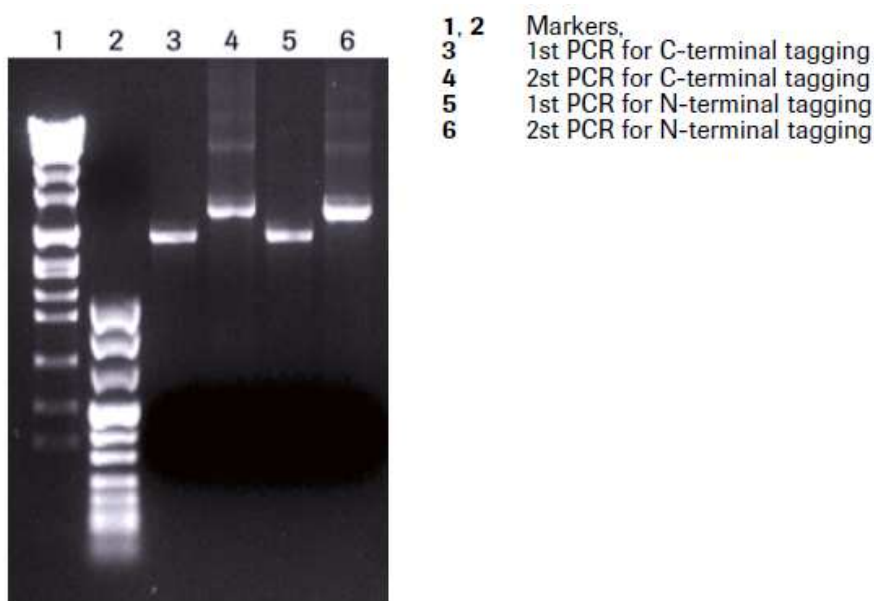

Figure 3. Typical products of the first and second PCR for C- and N-terminally tagged linear templates coding for GUS.
2. Estimate the product of the second PCR using the content of the molecular weight marker bands as an internal standard (Figure 3).
PCR product from the second PCR coding for N-terminal His₆-tagged GUS was quantified (Figure 3). 1 μ g of the PCR product (corresponding to 10 μ l) was used for expression in a 50 μ l reaction volume of the RTS 100 Wheat Germ CECF Kit and analyzed by SDS-PAGE (Figure 4) and optionally by Western blotting.